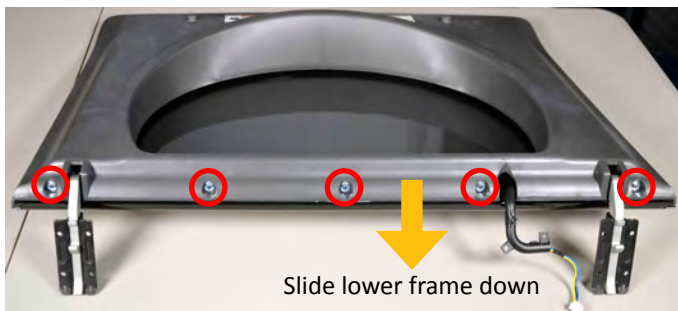

Figure 1
6. Using a 1/4" nut driver, remove the five (5) 1/4" hex-head screws (locations circled in Figure 1) securing the lower frame to the lid assembly.
7. Slide the lower frame down toward hinges and remove from upper lid/UI assembly (See Figure 1).